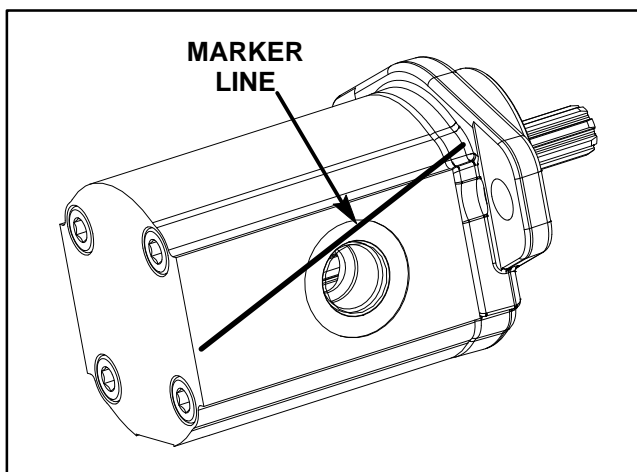

Figure 60
2. Use a marker to make a **diagonal** line across the front cover and body for assembly purposes (Fig. 60).
4. Loosen four (4) socket head screws on rear of pump.